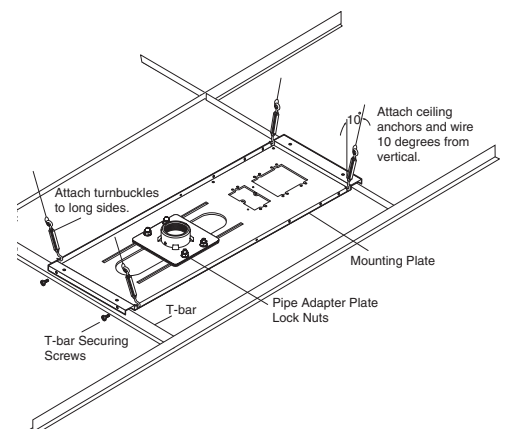

Figure 5. Attach Tie Wire and Safety Cable.
- d. Mark and drill four holes, approximately 1¼ inch (32 mm) deep into the ceiling joists, using a ¼ inch (6.4 mm) diameter drill bit. Do this at 10 degrees out from vertical. Drill a fifth hole centered above the PCM for the safety cable (see figure 5). Minimum suitable joist size should be 2 inches by 4 inches.